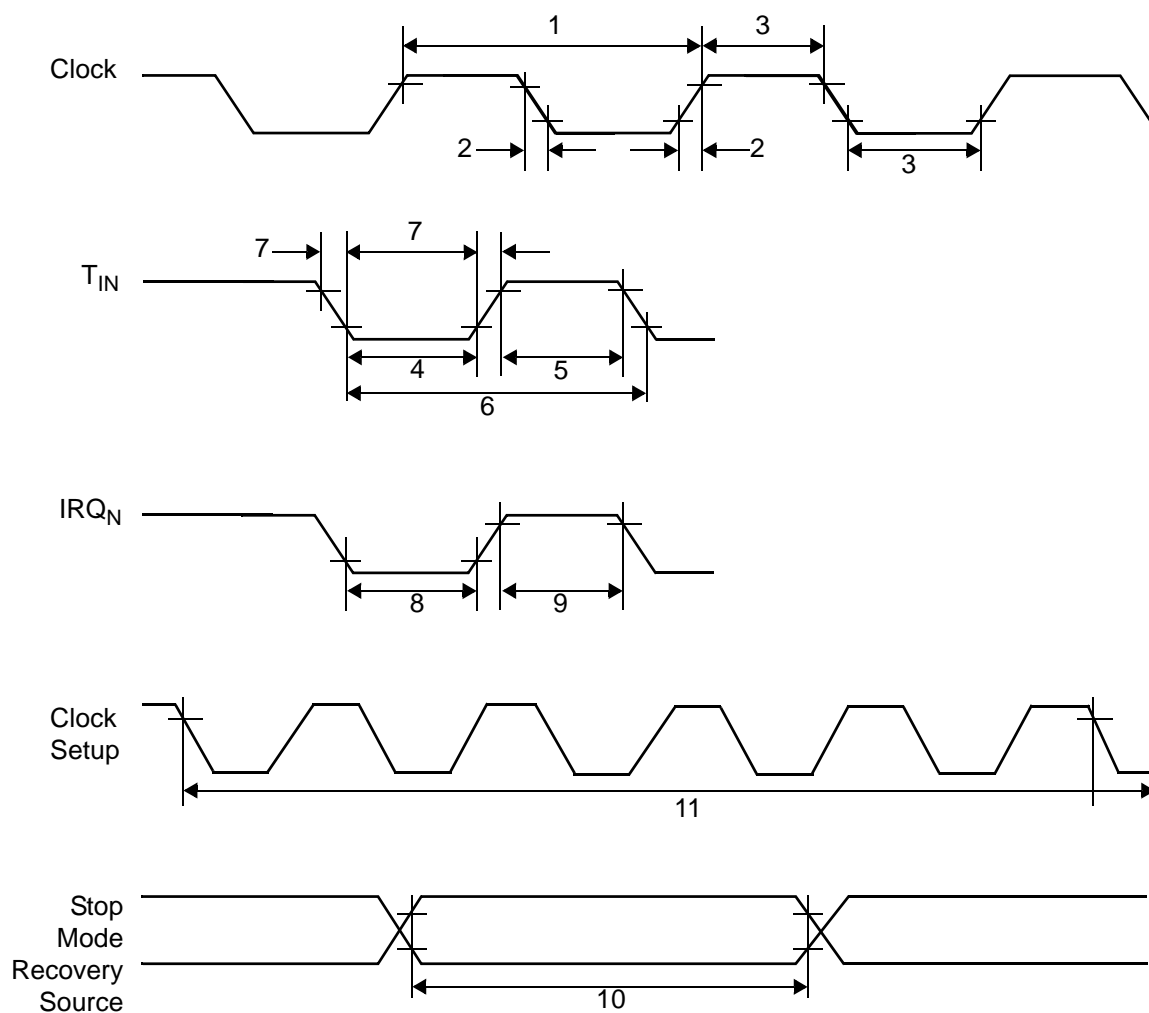

Figure 8. AC Timing Diagram
Figure 8 and Table 13 describe the Alternating Current (AC) characteristics.